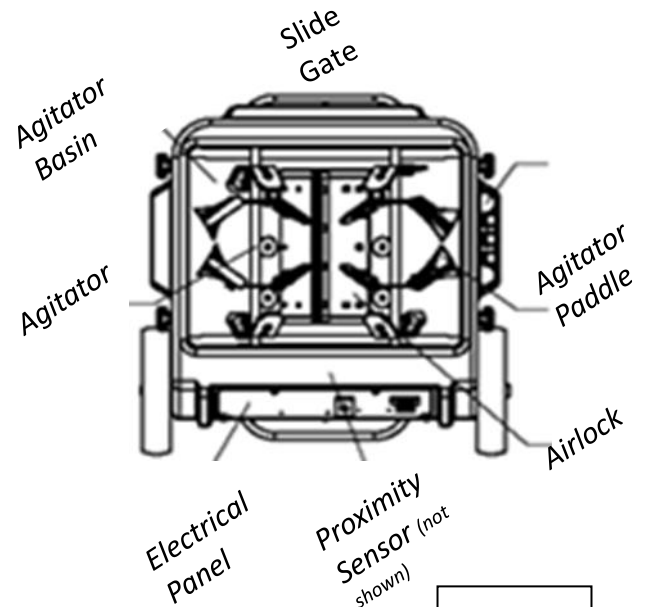

Figure 2
**BASE DETAILS** (see Figure 2)